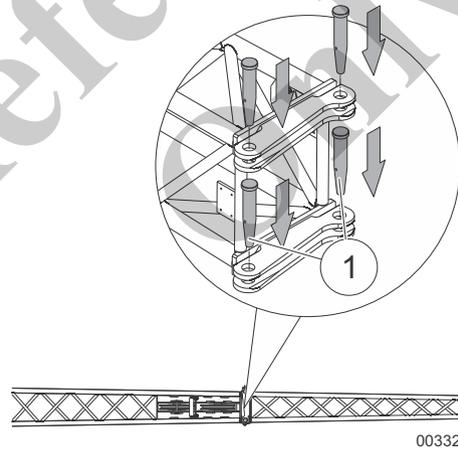

Fig. 159 Bolting the fly boom extension to the fly boom
14	Bolt the fly boom extension to the fly boom at the bolting positions (1) in Fig. 159 and secure with retaining springs.